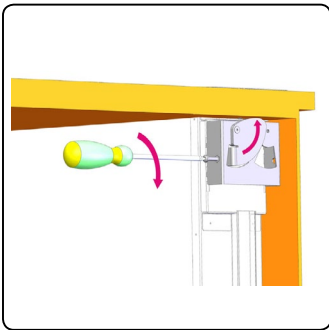

Fig. 3
5. Then tighten the screws manually, as in fig.3, to secure the product to the furniture. Before tightening the screws, make sure that the product is perfectly balanced. Pay attention in order not to tighten the screws too much.